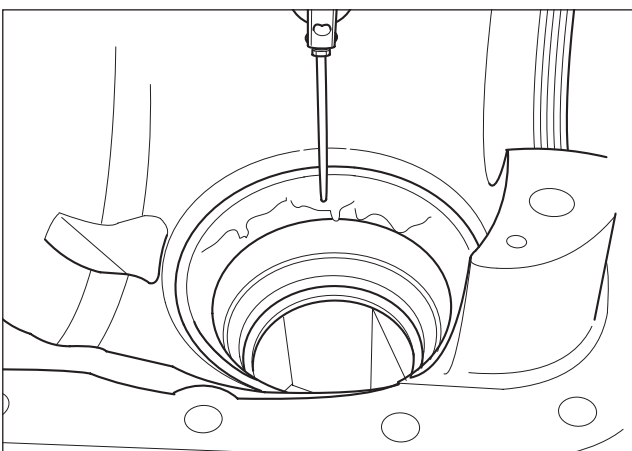

Fig. 2.50
7. Turn carrier over and lubricate bearing cup. (Fig. 2.50)